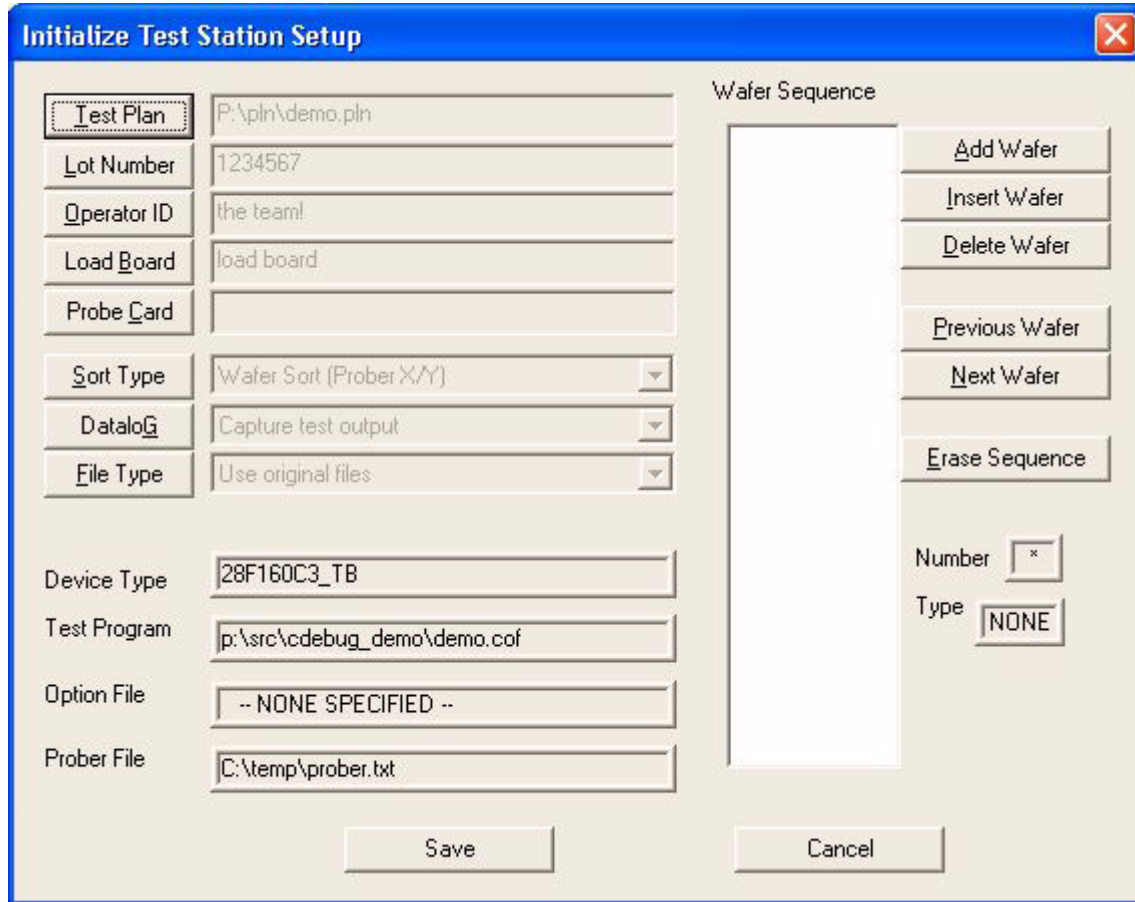

Figure 4-34. Initialize Test Station Setup Dialog Box
- 2 In the menu bar, selecting `Init Lot > Enter Lot Information` command displays the Initialize Test Station Setup dialog box (similar to Figure 4-34) that is used to set up each lot for testing.
- 4 In the Open dialog box, the `P:\PLN\demo.pln` plan file is selected for this example, and then the **Save** button is selected to display the Initialize Test Station Setup dialog box with the selected plan file displaying in the Test Plan field (Figure 4-34).
- 5 Selecting the **Save** button in the dialog box (Figure 4-34) by default displays consecutively two Red Hand Alert dialog boxes warning about the loss of summary data, and to Z down the wafer and disconnect all DUTs prior to initialization of the test sites. The `TEST_PLAN_WARNING` configuration plan file switch controls whether the Alert dialog boxes display.